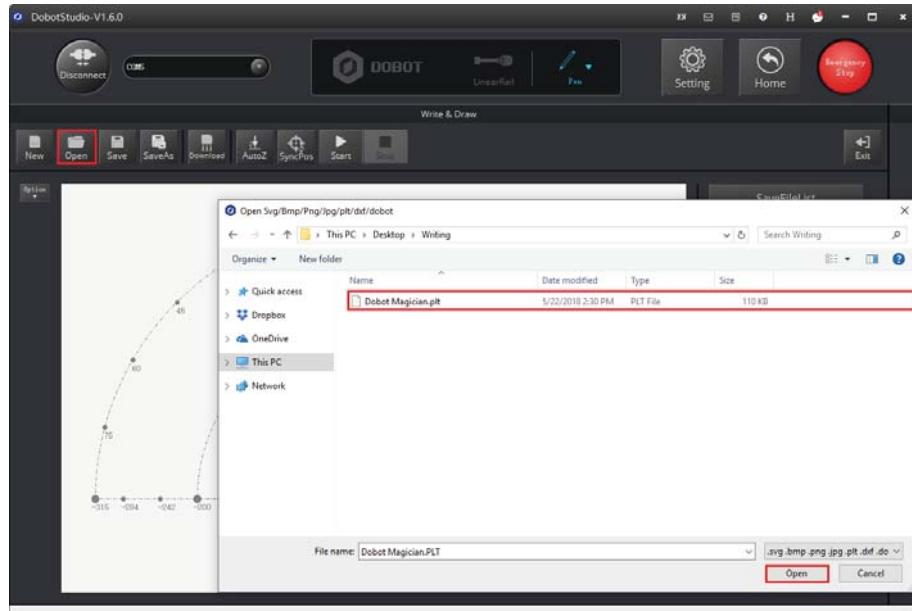

Figure 5.70 Open a PLT or SVG file
- Click **Open** on the **Write & Draw** page to import a built-in PLT or SVG image file from the DobotStudio installation directory **InstallationDirectory\DOBOTStudio\config\prefab\system\source**, as shown in Figure 5.70. You can also import your custom PLT or SVG image file.